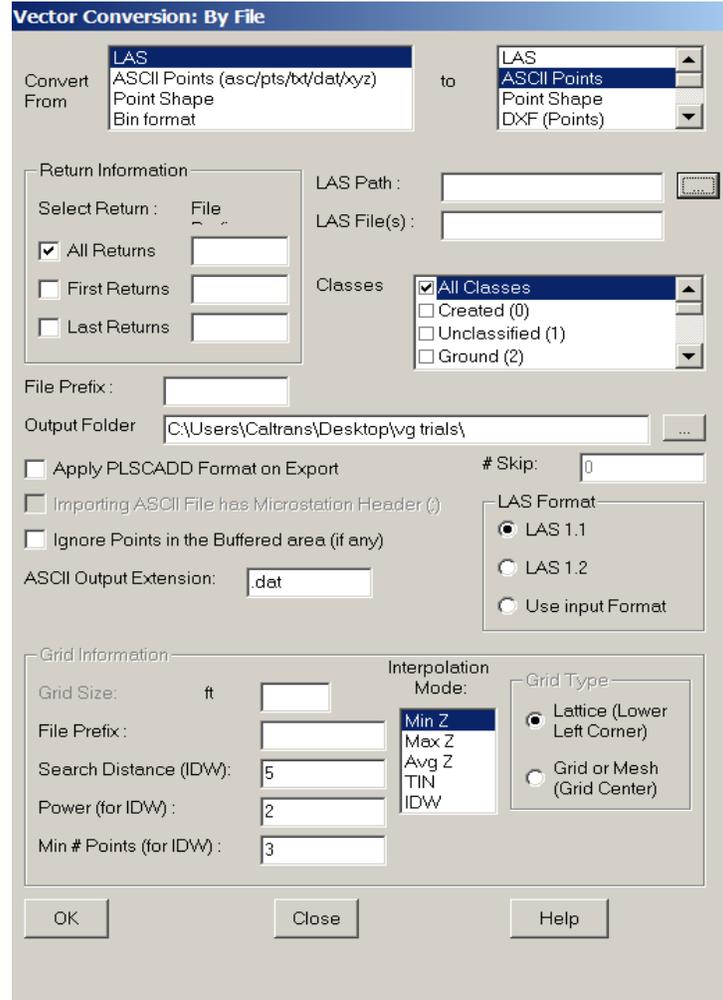

Figure 80: Product conversion pull down menu
- A dialog box (Vector Conversion by File) opens as shown in Figure 80